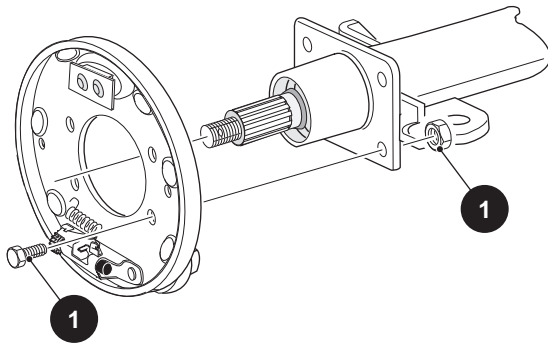

Figure 21 Backing Plate Removal and Installation
Remove the four bolts (1) and lock nuts (2) securing the wheel brake backing plate to the flange (3) on the axle tube (Figure 21).